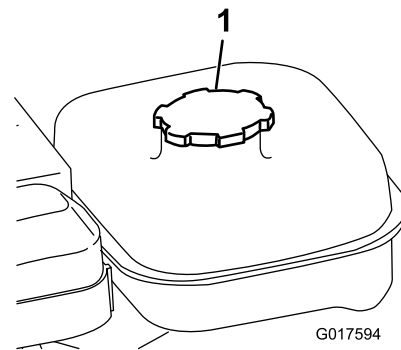

Figure 21
1. Clean around the fuel-tank cap and remove the cap from the tank (Figure 21). Fill the fuel tank no higher than to the bottom of the filter screen.